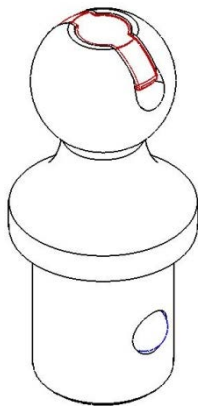

Figure 3 - Locked
2. To install Pop-In™ Gooseneck ball - Lift handle in center of the ball and rotate 90 degrees (see figure 2). Insert Gooseneck ball assembly in the receiver tube in the bed of the truck with the ball bearings oriented side to side of the truck bed, Turn the center handle 90 degrees so that it drops in the slit in the top of the ball. If the center handle does not retract fully, rotate the ball until the handle seats itself in the slot (see figure 3).